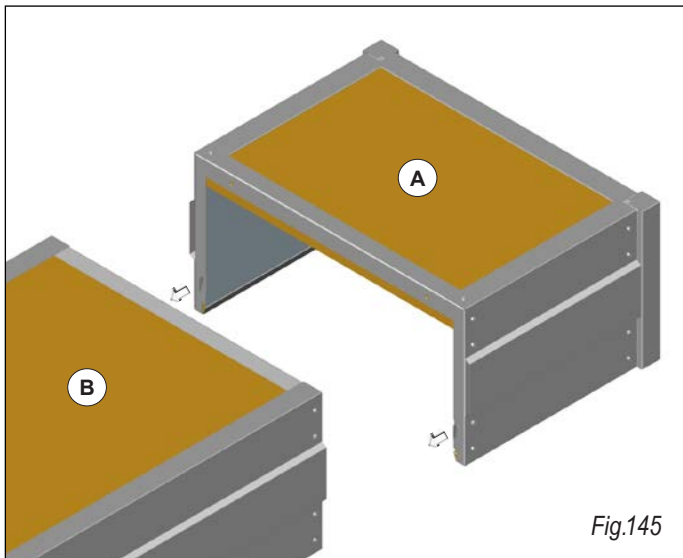
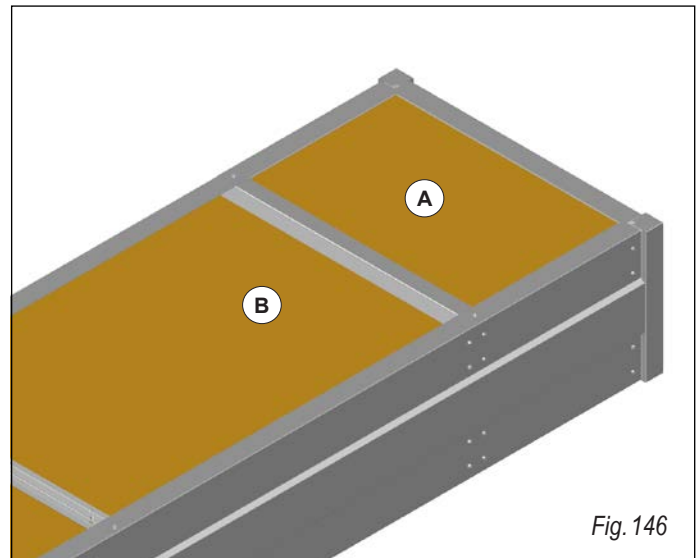

Fig.145
Fig. 146
Couple the terminal module (A) with the radiant belt (B) by means of the tooth and the slot (fig. 145), as previously explained. Fasten the terminal module to the radiant belt (fig. 146), using the two frames with screw and nut as previously described.